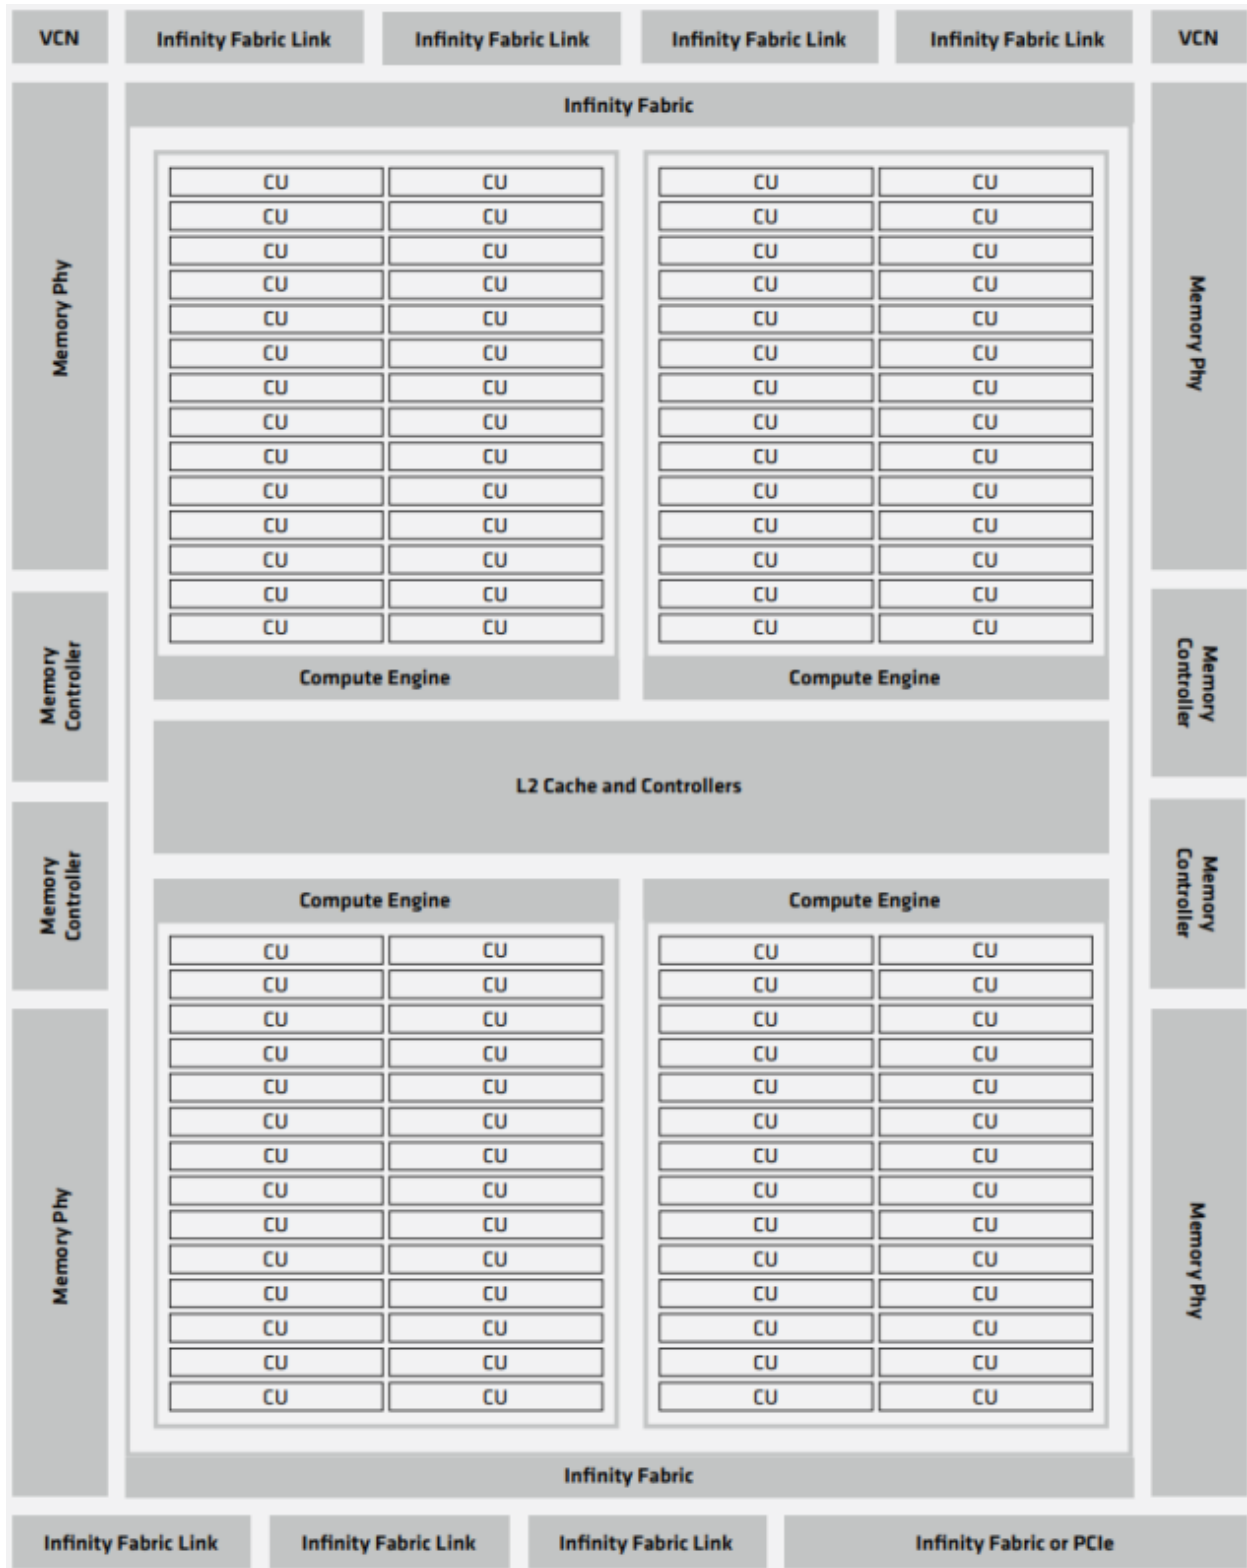

Fig. 29.1: Figure 1: Structure of a single GCD in the AMD Instinct MI250 accelerator.
Fig. 29.1 shows the components of a single Graphics Compute Die (GCD) of the CDNA 2 architecture. On the top and the bottom are AMD Infinity Fabric™ interfaces and their physical links that are used to connect the GPU die to the other system-level components of the node (see also Section 2.2). Both interfaces can drive four AMD Infinity Fabric links. One of the AMD Infinity Fabric links of the controller at the bottom can be configured as a PCIe link. Each of the AMD Infinity Fabric links between GPUs can run at up to 25 GT/sec, which correlates to a peak transfer bandwidth of 50 GB/sec for a 16-wide link (two bytes per transaction). Section 2.2 has more details on the number of AMD Infinity Fabric links and the resulting transfer rates between the system-level components.
The execution units of the GPU are depicted in Fig. 29.1 as Compute Units (CU). The MI250 GCD has 104 active CUs. Each compute unit is further subdivided into four SIMD units that process SIMD instructions of 16 data elements per instruction (for the FP64 data type). This enables the CU to process 64 work items (a so-called “wavefront”) at a peak clock frequency of 1.7 GHz. Therefore, the theoretical maximum FP64 peak performance per GCD is 45.3 TFLOPS for vector instructions. The MI250 compute units also provide specialized execution units (also called matrix cores), which are geared toward executing matrix operations like matrix-matrix multiplications. For FP64, the peak performance of these units amounts to 90.5 TFLOPS.